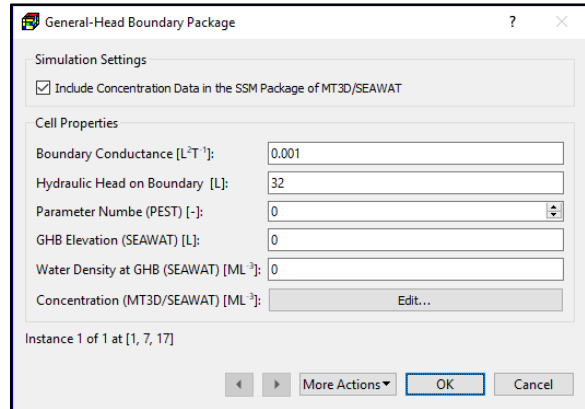
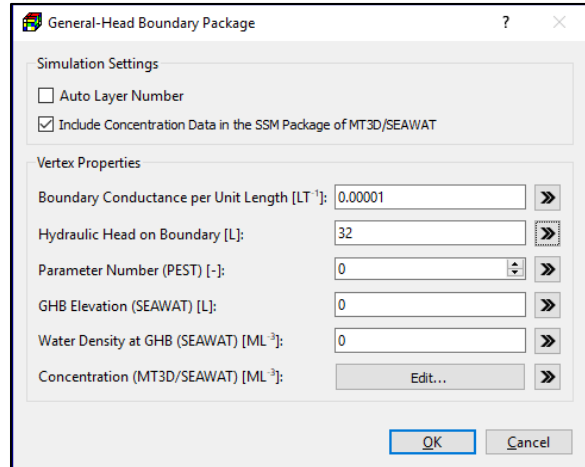
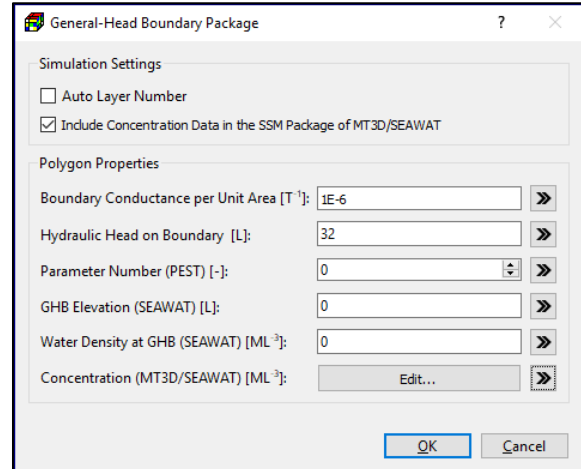

Figure 65. The General-Head Boundary Package dialog box for specifying cell properties
Figure 66. The General-Head Boundary Package dialog for specifying vertex properties.
Figure 67. The General-Head Boundary Package dialog for specifying polygon properties.
1. **All input methods:** The data entry dialog boxes (Figure 65, Figure 66, and Figure 67) of all input methods include a Simulation Settings group that contains the following option.
2. **Cell-by-cell input method:** Figure 65 shows the dialog box for specifying one or more external boundary segments to a model cell. For each segment, the following properties need to be assigned.
- **Boundary conductance (CB) [L²T⁻¹].** The value of CB depends on the characteristics of the aquifer and the external boundary.
- **Hydraulic Head on Boundary (HB) [L].** This is the head at the segment of external boundary.
3. **Polyline input method:** Figure 66 shows the dialog box for specify data to one or more vertices of a polyline.
- If this box is checked, the layer number of a segment of external boundary along the polyline is determined by comparing its *hydraulic head on external boundary (HB)* with the top/bottom elevations of the cells in the same vertical model column as that segment.
4. **Polygon input method:** Figure 67 shows a dialog box for specify the following data to a polygon. These data may be applied to model cells following the rules described in Section 3.4.2.3 and additional rules below.